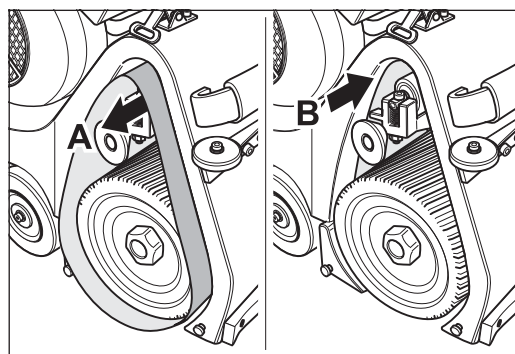
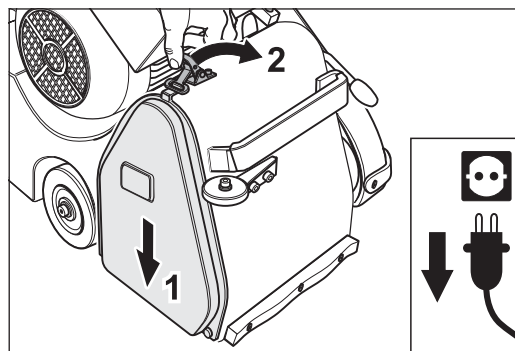

Fig. 78 If the sanding belt runs in direction of **A** or **B**, the setting of the sanding belt regulation is necessary.
Fig. 79 Mount the side cover.
- 5 If the sanding belt runs to the front (towards **A** in fig. 78) or to the back (towards **B** in fig. 78) the setting of the sanding belt regulation is necessary (➔ *Section 7.3.2, Setting the sanding belt tracking*). If the sanding belt tracking is alright, mount the side cover (fig. 79).
If the sanding belt is running out of true (in direction of **A** or **B** in fig. 78), it must be turned around and another test performed.
If the sanding belt runs to the front (in direction of **A** in fig. 78) and after turning over runs to the back (in direction of **B** in fig. 78) or vice versa, the sanding belt is of poor quality and is **not usable** (conical sleeve)!
- 9 After successful setting of the sanding belt tracking mount the side cover (fig. 79).